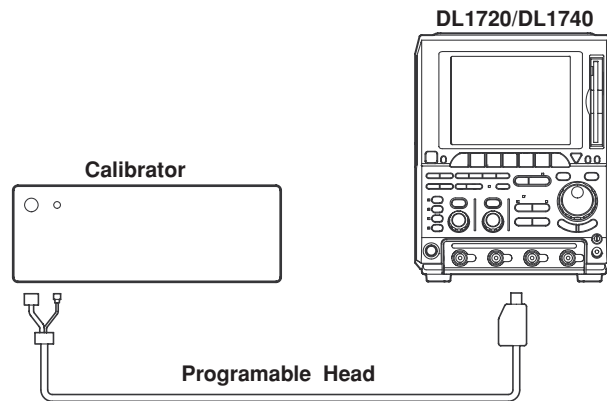

Figure 3.1 Connection Method
3. Connect each instrument as shown in figure 3.1, "Connection Method."